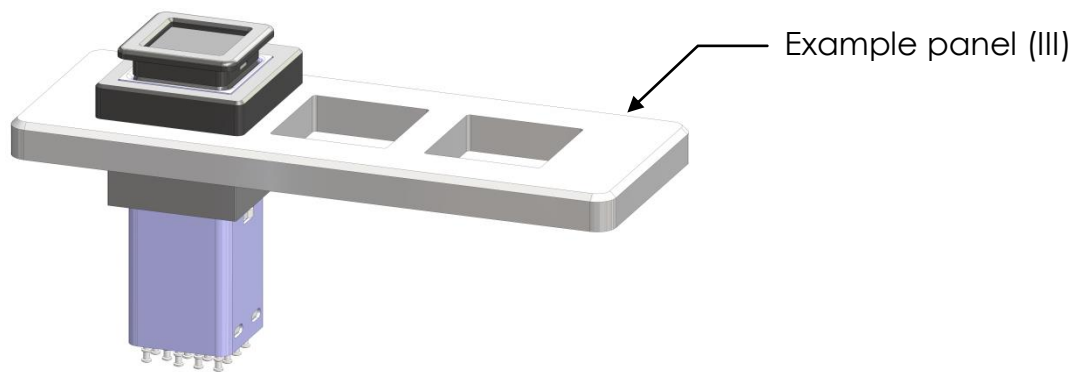
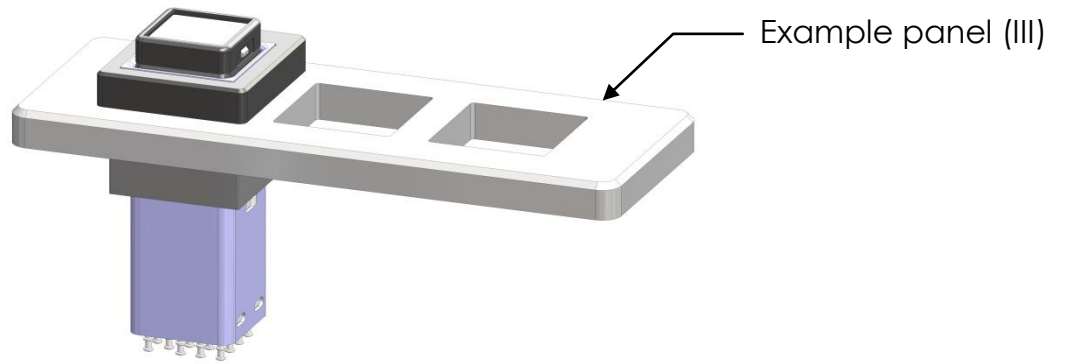

Figure 7: Finish -002 Configuration
Figure 8: Finish -003 configuration
- 4.6. Re-install pushbutton back onto switch assembly. (Figure 7 for -002 and Figure 8 for -003.)